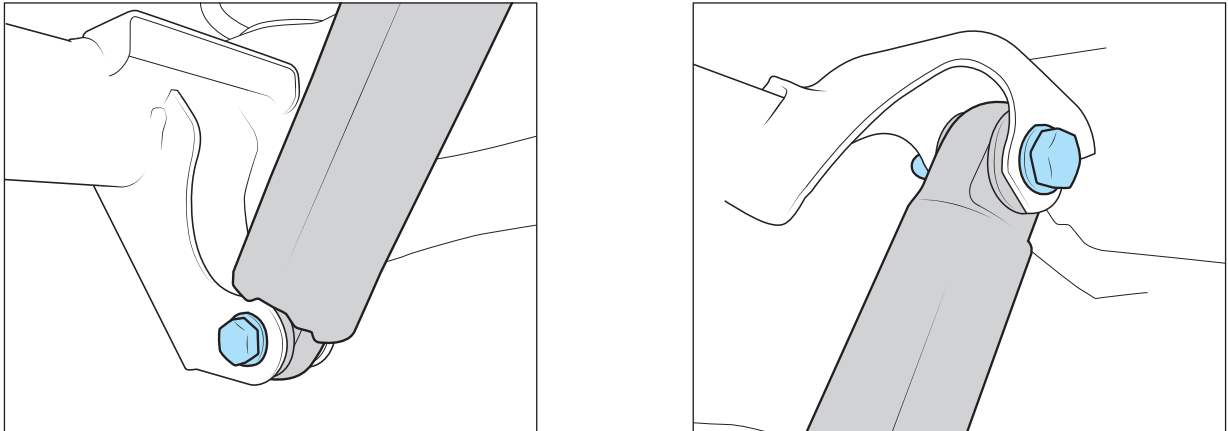

Figure 5
8. Remove the shocks and SAVE HARDWARE (fig. 5).